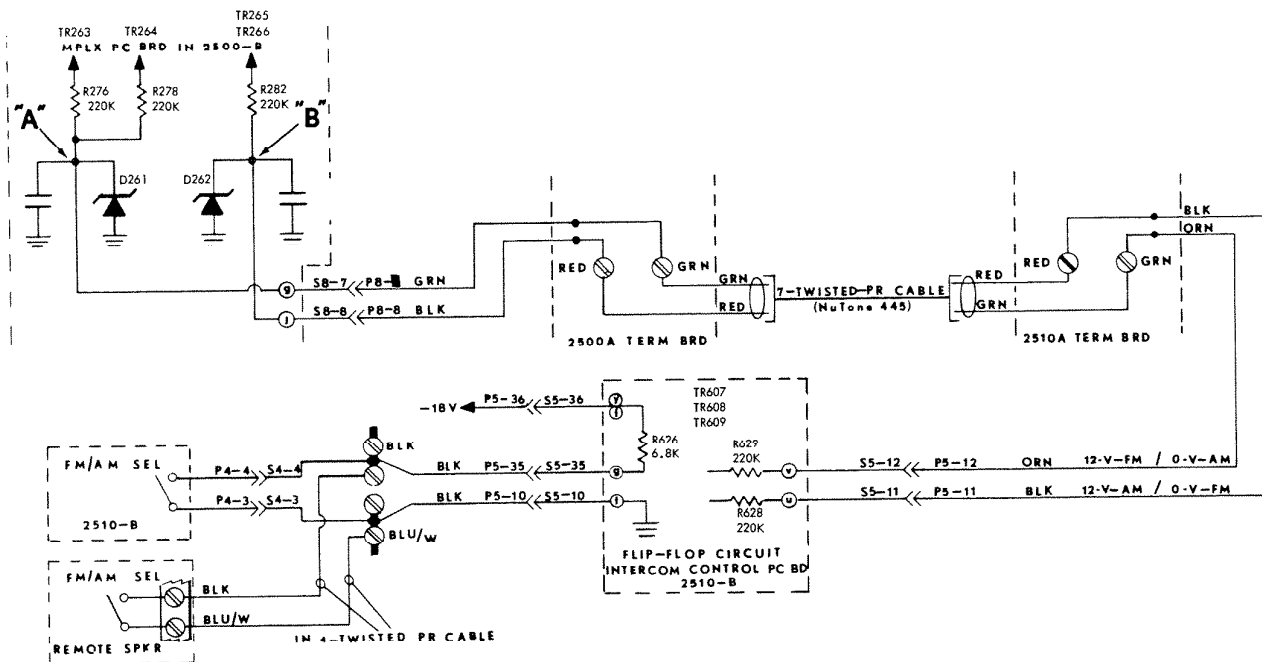

Fig. 1.15 — REMOTE FM/AM SELECTION WIRING DIAGRAM
1. Determining the voltage (6 Vdc or 0.6 Vdc) at points "A" and "B" and whether the AM or FM program is being played through the system when operating in the remote mode is a function of the Flip-Flop (TR608 and TR609) circuit in the 2510 Intercom Master Control. (Fig. 1.15)